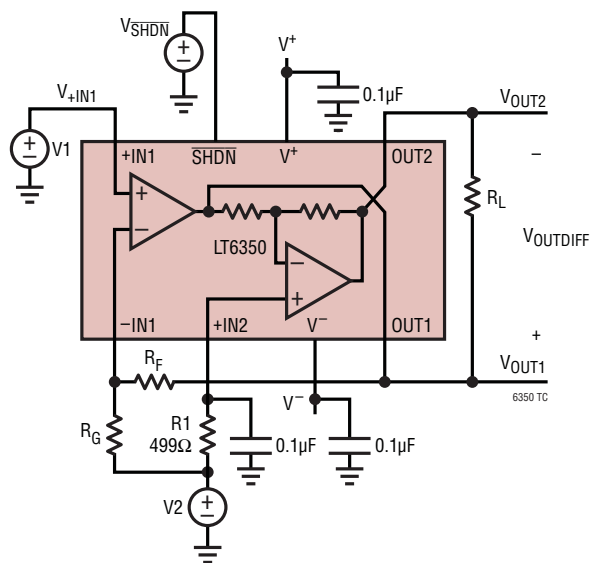

Figure 1. DC Test Circuit.
**ELECTRICAL CHARACTERISTICS** The ● denotes specifications that apply over the full specified temperature range, otherwise specifications are at  $T_A = 25^\circ\text{C}$ . Unless noted otherwise,  $V^+ = 5\text{V}$ ,  $V^- = 0\text{V}$ ,  $V_{+IN1} = V_2 = \text{Mid-Supply}$ ,  $V_{\text{SHDN}} = V^+$ ,  $R_L = \text{OPEN}$ ,  $R_F = \text{SHORT}$ ,  $R_G = \text{OPEN}$ .  $V_S$  is defined as  $(V^+ - V^-)$ .  $V_{\text{OUTCM}}$  is defined as  $(V_{\text{OUT1}} + V_{\text{OUT2}})/2$ .  $V_{\text{OUTDIFF}}$  is defined as  $(V_{\text{OUT1}} - V_{\text{OUT2}})$ . See Figure 1.
**Note 6:**  $V_{\text{OS2}}$  is measured as the total output common mode voltage offset (error between output common mode and voltage at  $V_2$ ).  $V_{\text{OS2}}$  includes the combined effects of op amp 2's voltage offset,  $I_B$ ,  $I_{\text{OS}}$  and mismatch between on-chip resistors and the  $499\Omega$  external resistor, R1 (See Figure 1).
$T_A = 25^\circ\text{C}$ ,  $V^+ = 5\text{V}$ ,  $V^- = 0\text{V}$ ,  $V_{+IN1} = V_2 = \text{Mid-Supply}$ ,  $V_{\text{SHDN}} = V^+$ ,  $R_F = \text{SHORT}$ ,  $R_G = \text{OPEN}$ ,  $R_L = \text{OPEN}$ . See Figure 1.
$T_A = 25^\circ\text{C}$ ,  $V^+ = 5\text{V}$ ,  $V^- = 0\text{V}$ ,  $V_{+IN1} = V_2 = \text{Mid-Supply}$ ,  $V_{SHDN} = V^+$ ,  $R_F = \text{SHORT}$ ,  $R_G = \text{OPEN}$ ,  $R_L = \text{OPEN}$ . See Figure 1.